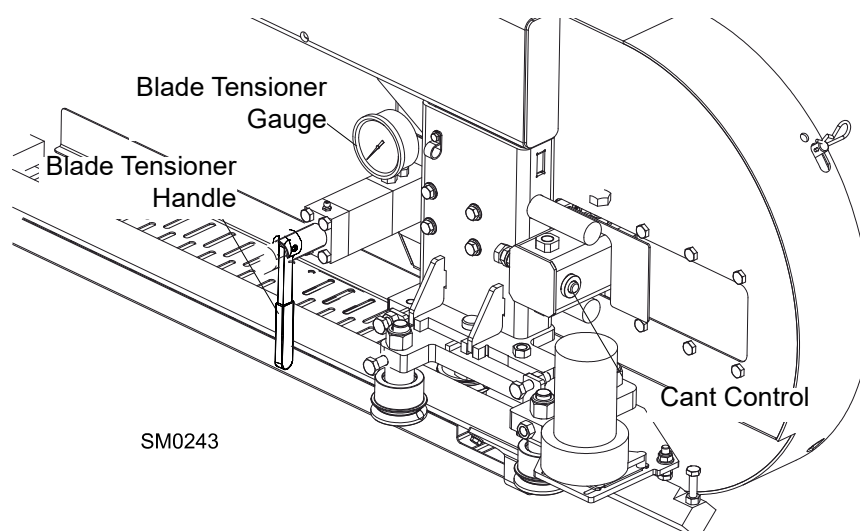

FIG. 2-10
See **Figure 2-10**. Tension the blade by turning the hydraulic tensioning handle clockwise until the tension gauge indicates the recommended tension.
- To adjust where the blade travels on the blade wheels, use the cant control shown in **Figure 2-10**.